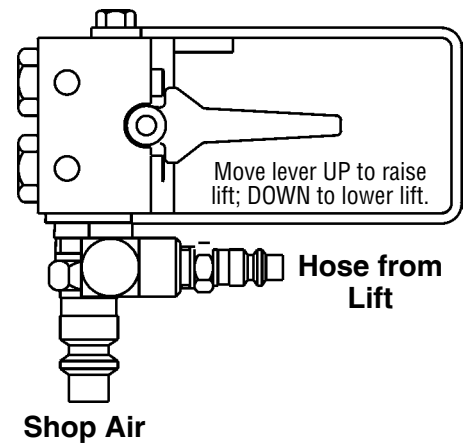

Figure 2
4. Connect the air hose from the lift on your right to the right side of the air control unit. Connect the air hose from the lift on your left to the left side of the air control unit. See Figure 2.